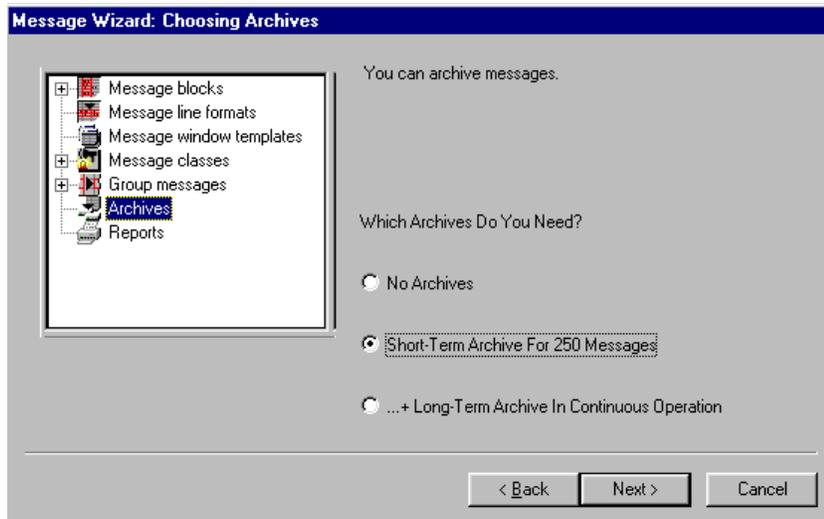

Figure 4.3e WinCC Project "QckStart"; The Message Wizard
6. In the "Choosing Archives" screen, choose the "Short-Term Archive for 250 Messages". Click "Next". View Figure 4.3e for reference.